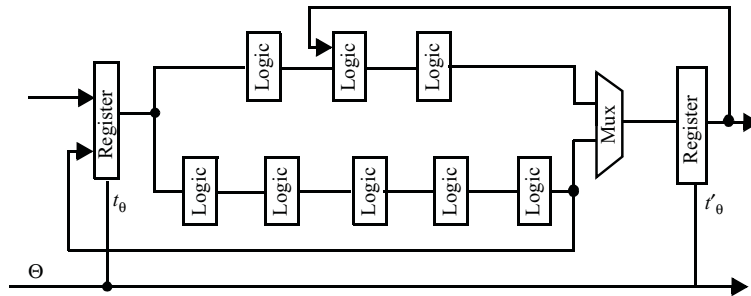

Figure 0.1 Sequential circuit.
1. [C, None, 9.2] For the circuit in Figure 0.1, assume a unit delay through the Register and Logic blocks (i.e., $t_R = t_L = 1$). Assume that the registers, which are positive edge-triggered, have a set-up time t_S of 1. The delay through the multiplexer t_M equals $2 t_R$.